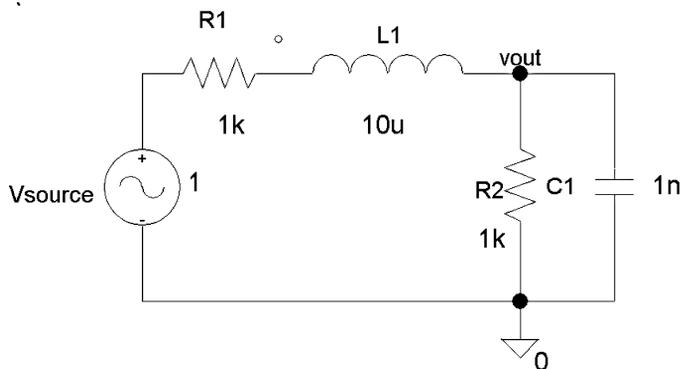

FIGURE 6.47: Centre-tap transformer
- (7) Investigate the center-tap transformer in Fig. 6.47 using **XFRM_LINEAR** parts.